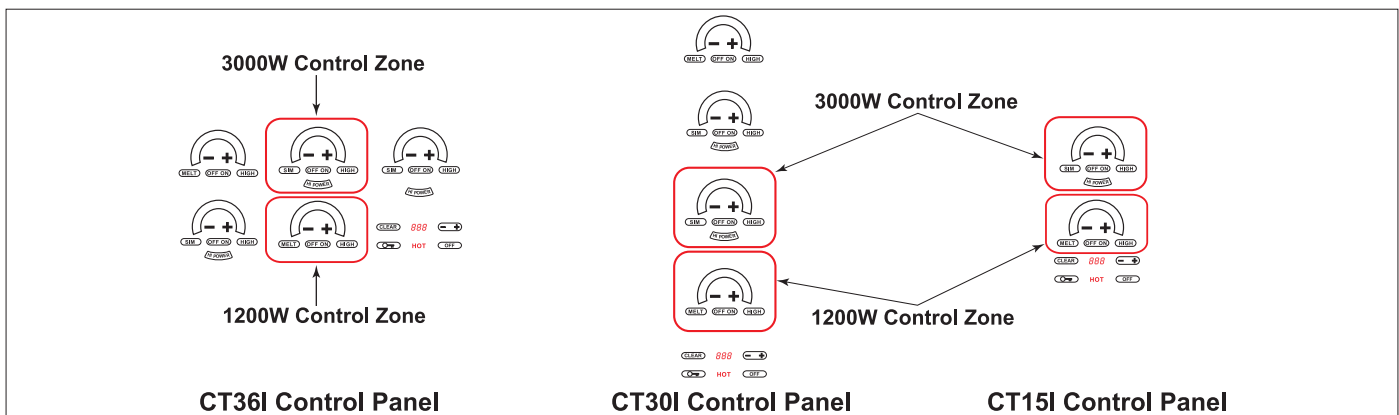

Figure 5-2.
Upon entry to Diagnostics Mode, the LED Test will automatically start. To step through tests, the user will use the “+” and “-” keys of the 3000W coil (the rear element, HI-POWER). The 3000W control will step up one LED for each test to identify which test is being performed. See the individual descriptions for each model, in Figure 5-2 below).
1. Upon entry to Diagnostics Mode, the LED Test will automatically start. To step through tests, the user will use the “+” and “-” keys of the 3000W (the rear element, HI-POWER) inductor (See Figure 5-2).